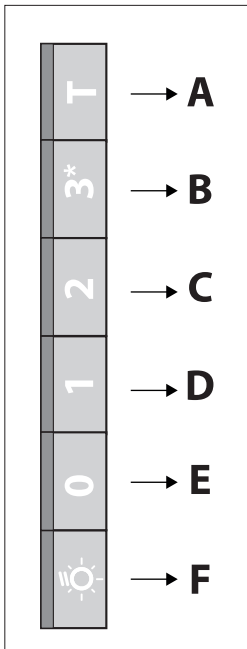

Fig.9
• **Bright Control (Fig.9)** the key symbols are explained below: